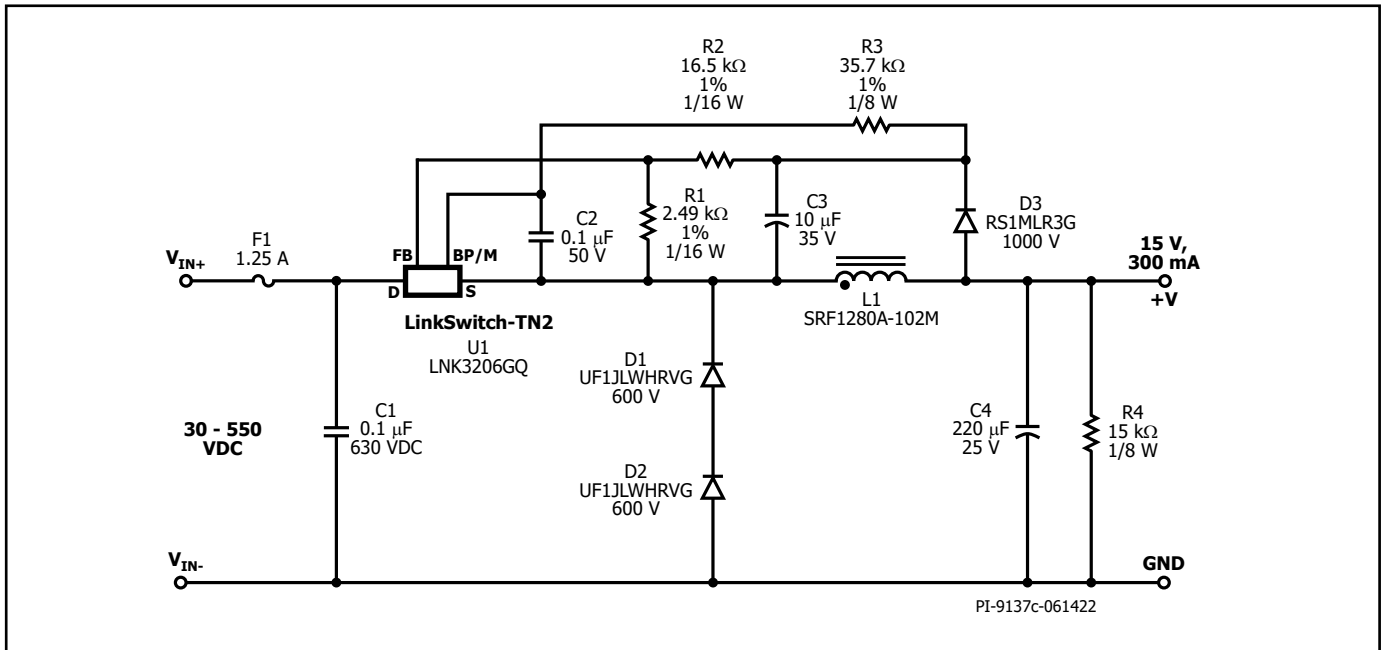
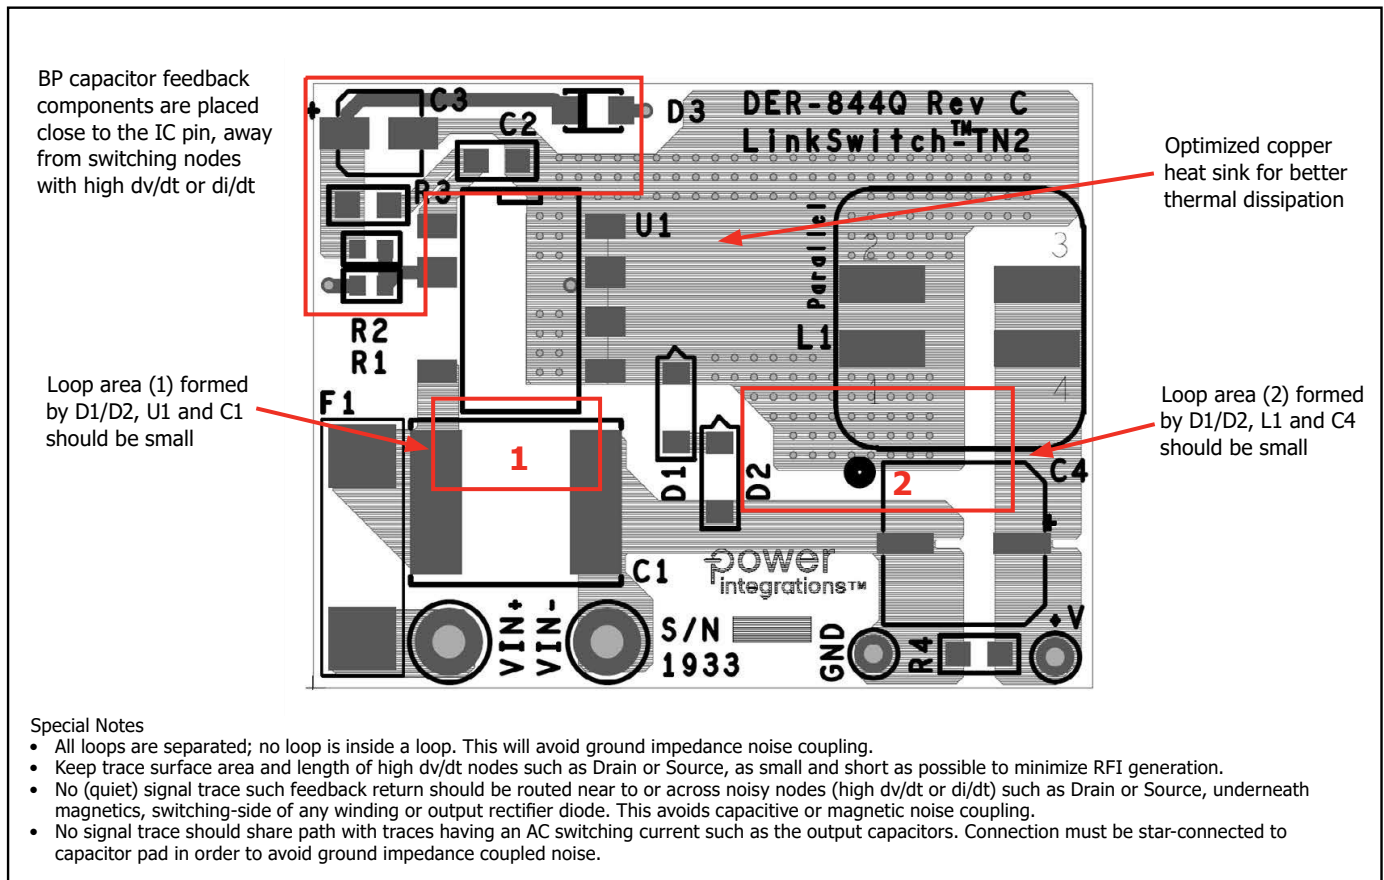

Figure 7. 30 VDC – 550 VDC, 15 V, 300 mA Constant Voltage Power Supply using LinkSwitch-TN2 Automotive.
Figure 8. Recommended Printed Circuit Layout for LinkSwitch-TN2 Automotive using G Package.
The circuit shown in Figure 7 is typical implementation of a 15 V, 300 mA non-isolated power supply used in automotive application. DC voltage from a battery source will be the input to the buck converter. The buck converter circuit was designed to meet AEC-Q100 Grade 3 temperature requirement of -40 °C to +85 °C.
Regulation is maintained by skipping switching cycles. As the output voltage rises, the current into the FEEDBACK pin will rise. If this exceed  $I_{FB}$  then subsequent cycle will be skipped until the current is reduces below  $I_{FB}$ . Thus, as the output load is reduced, more cycles will be skipped and if the load increases, fewer cycles are skipped. To provide overload protection if no cycles are skipped during 50 ms period, LinkSwitch-TN2 Automotive will enter auto-restart, limiting the average output power to approximately 3% of the maximum overload power. Due to tracking errors between the output voltage and the voltage across C3 at light load or no-load, a small pre-load may be required (R4). For the design in Figure 7, if regulation to zero load is required, then this value should be reduced to 5 kΩ.
Referring to Figure 7, the following considerations may be helpful in selecting components for a LinkSwitch-TN2 Automotive design. Selected component should be AEC compliant due to automotive application.
Figures 8 are printed circuit board layout design examples for the circuit schematic shown in Figure 7. The loop area 1 formed by LinkSwitch-TN2 (U1), free-wheeling diodes (D1, D2), and input bypass capacitor (C1) should be kept as small as possible. The loop area 2 formed by inductor (L1), output filter capacitor (C4) and free-wheeling diodes (D1, D2) should also be kept as small as possible. The BYPASS pin capacitor C2 should be located physically close to the BYPASS (BP) and SOURCE (S) pins. Effective decoupling capacitor C1 placement should be close to the DRAIN (D) pin. For a clean feedback signal, Feedback diode (D3) should be star connected to output cap (C4). Trace from output cap (C4) to Feedback diode (D3) should be space out properly away from switching nodes.